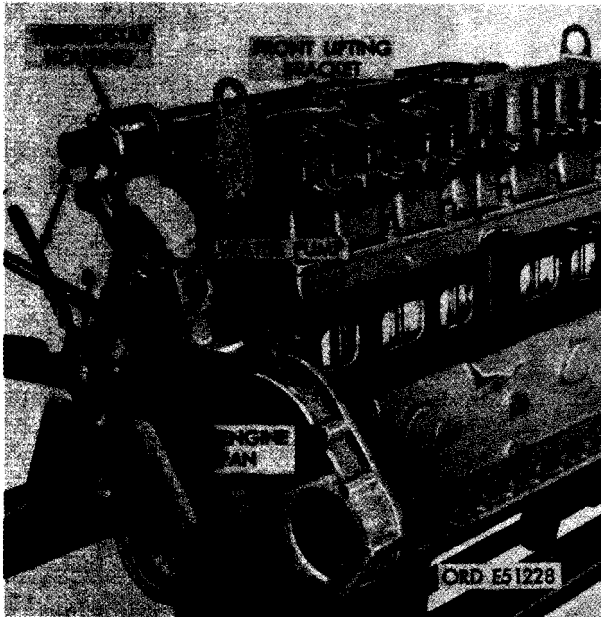

FIGURE 488. INSTALLING ENGINE FAN.
c. Install Engine Fan. Figure 488. (A) Position engine fan against water pump pulley and align screw holes. (B) Secure fan to water pump pulley using four 5/16-inch lock washers and 5/16 x 3/4 cap screws.